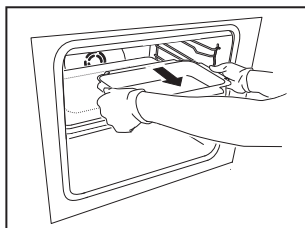

Fig. 2
2. Then use the lateral handles to better grasp and fully remove the cooking vessel (Fig. 2).